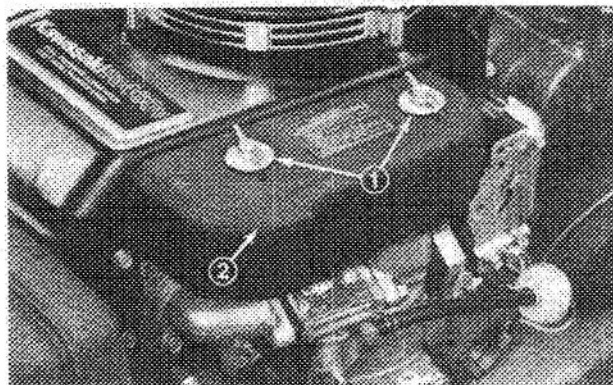

Figure 14
1. Remove (2) wing bolts and lift off air cleaner cover (Fig. 14).